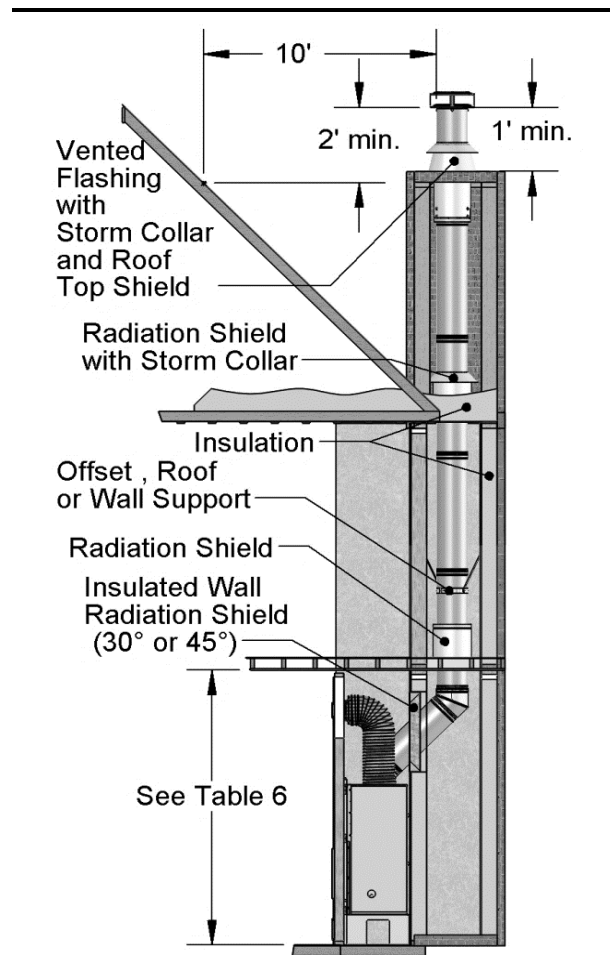

FIGURE 23 EXTERIOR CHASE AND THROUGH THE WALL
If necessary, the chimney can go through a wall at an angle as shown in Figure 23. You will need to use an Insulated Angled Wall Radiation Shield (RM-10WRSI30 or RM-10RWSI45) to protect the combustible wall structure from the heat of the chimney.
If the chimney runs up the outside of the house, we recommend that it be enclosed in a chase. The chase should be constructed in such a way that it is an extension of the home (see Figure 23). It should be well insulated between the footings and the floor of the home to prevent heat loss.
2. At each floor where the chimney passes through, you must install a radiation shield. At the attic level, install a radiation shield and a storm collar as shown in Figure 5 and Figure 23.